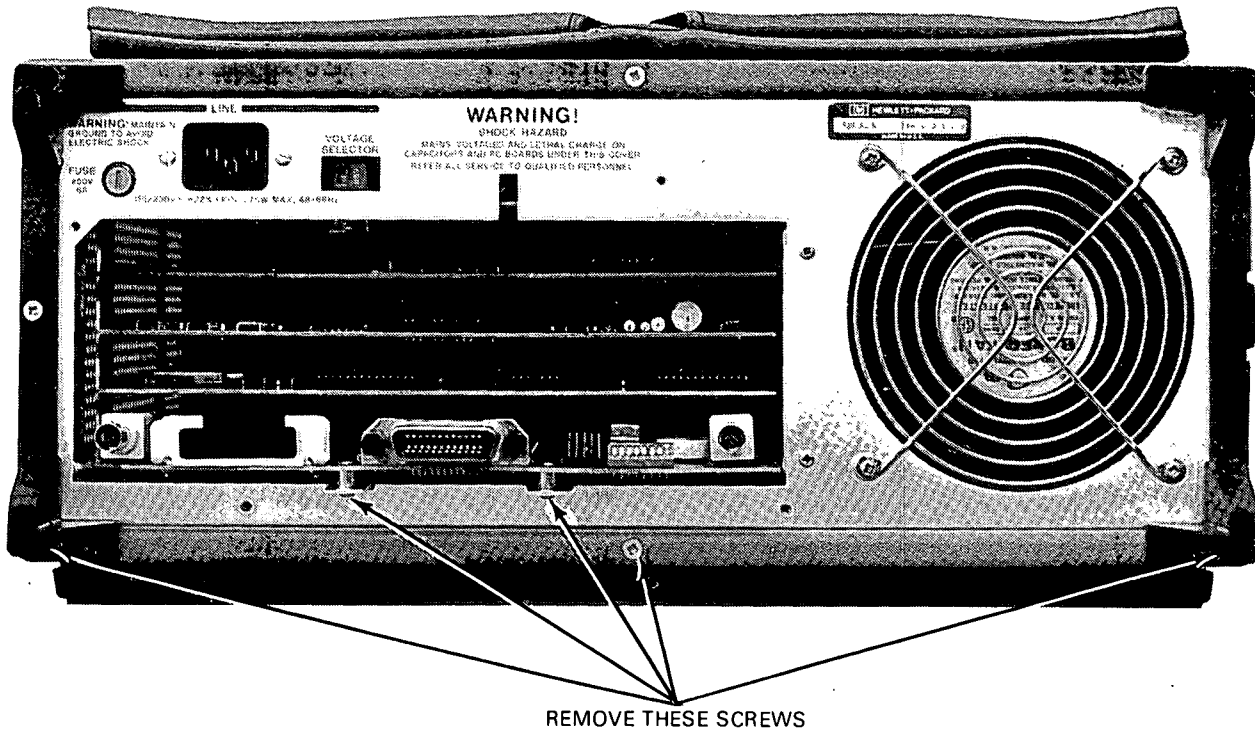

Figure 1.
- 1) Remove the two rear feet (see figure 1).
- 2) Remove the bottom cover by loosening the screw at the center of the cover (see figure 1).
- 7) Remove the two screws beneath HP-IB connector (see figure 1).